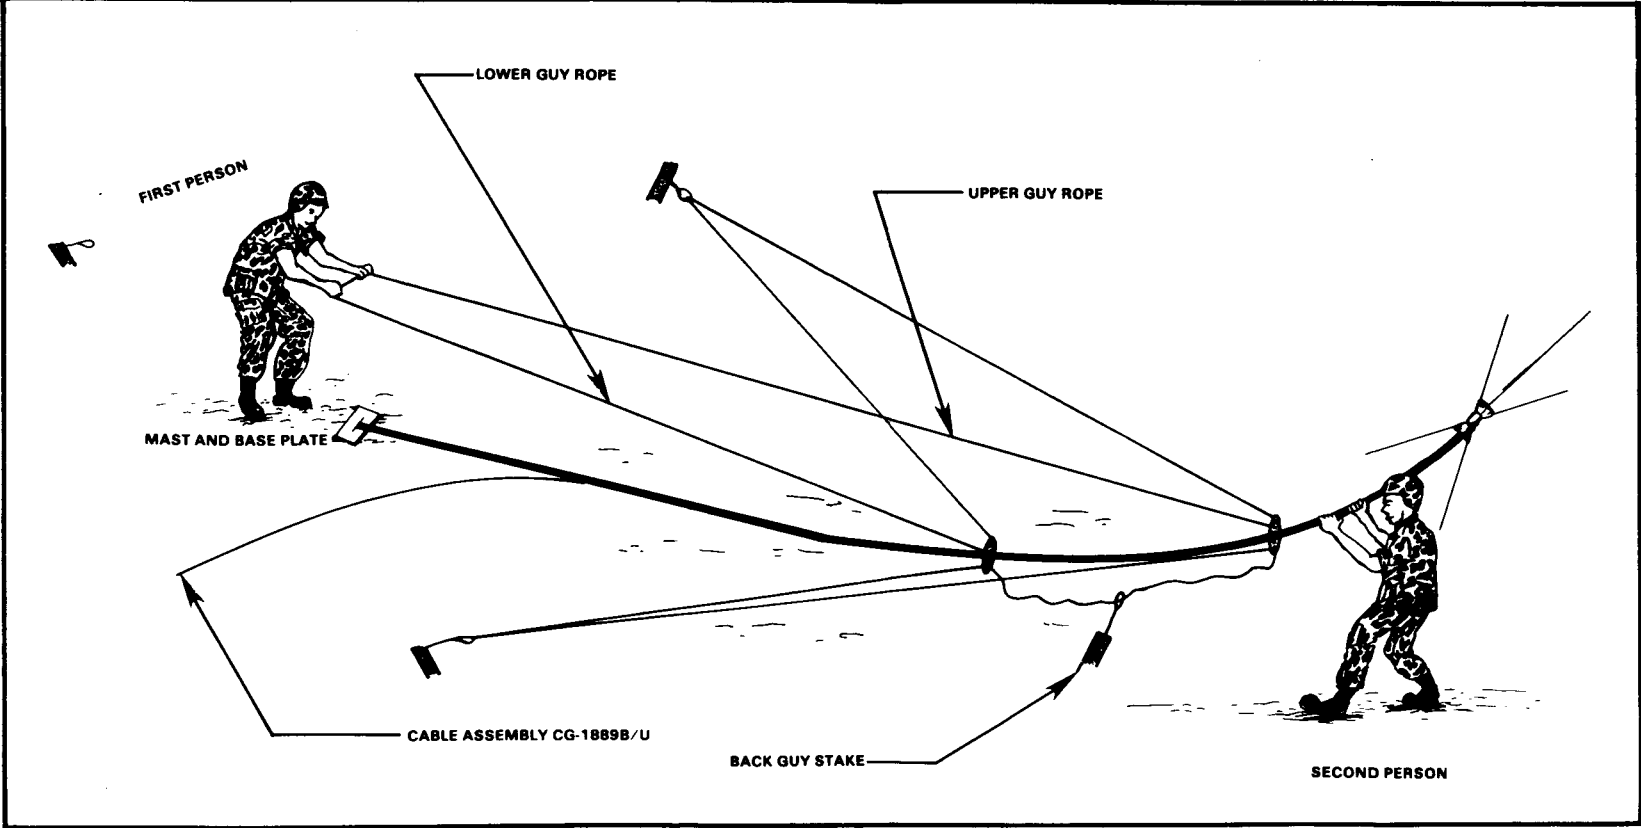

Figure 3-14. Erecting antenna group OE-254/GRC.
- e. Make sure that the mast assembly is laid out straight and crosses beside one guy stake (the back guy stake, Figure 3-14).
- g. Lay the two bottom (upper and lower) guys along one of the tightened side guys and adjust them to the same length. Attach the bottom guy ropes to the back guy stake (Figure 3-14).
- (1) Installer—near the baseplate assembly in line with the far guy stake holding the free guys (Figure 3-14).
- (2) Assistant—at the top holding the antenna at shoulder height.